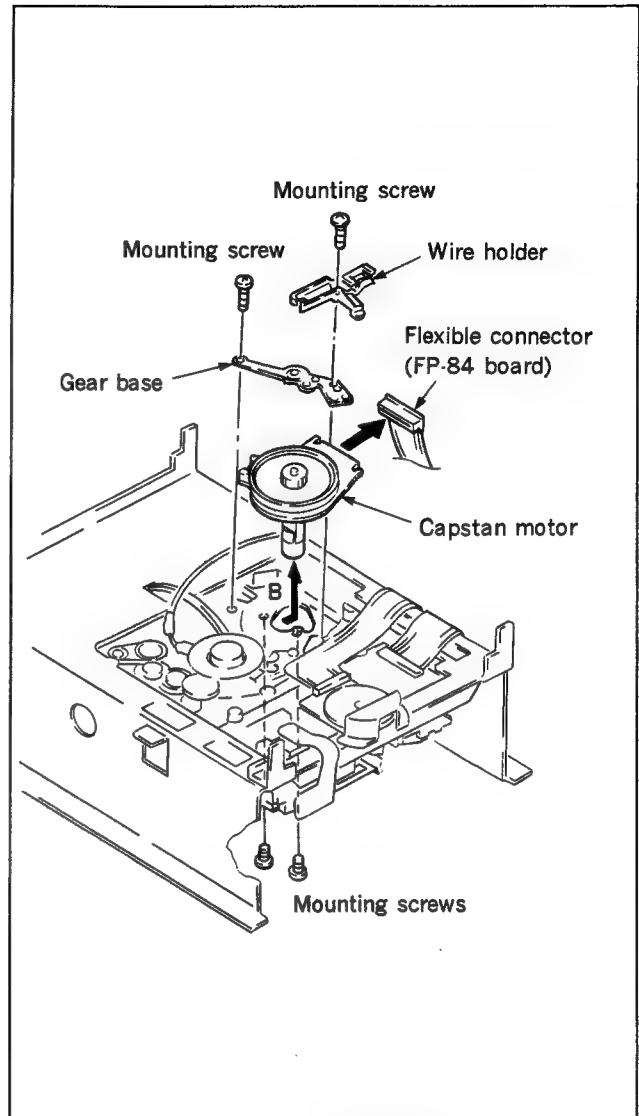

Fig. 4-7-2 Capstan motor replacement
2. Drum motor harness and wire holder removal (Fig. 4-7-2)
3. Gear base removal (Fig. 4-7-2)